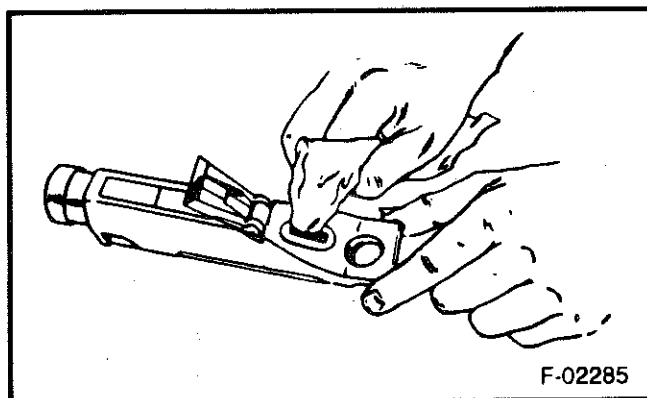

Figure 2 - Cleaning the Coolant Tester
- Before each use, swing back the plastic cover at the slanted end of the tester exposing the measuring window and the bottom of the plastic cover. WIPE BOTH CLEAN AND DRY with tissue or clean soft cloth. Close the plastic cover (Figure 2).